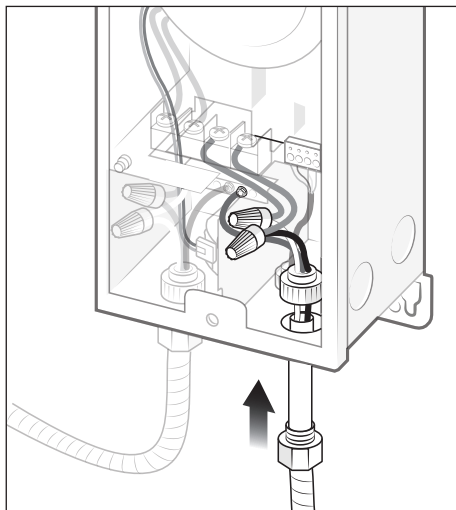

Figure 10. Connect Low Voltage Wires
2. Thread a conduit connector into the knockout hole on the Light Controller, see *Figure 10*.
3. Feed low voltage light cord through the conduit and conduit connector on the Light Controller, see *Figure 10*.